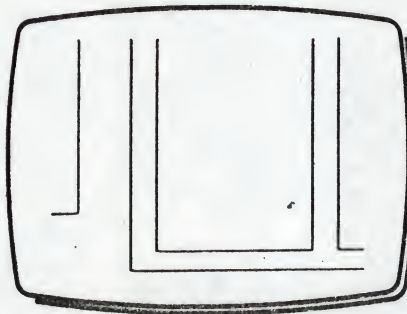

Fig 5
- 16 Press and release T to draw an enlarged lower section of the window frame as in Fig 5.